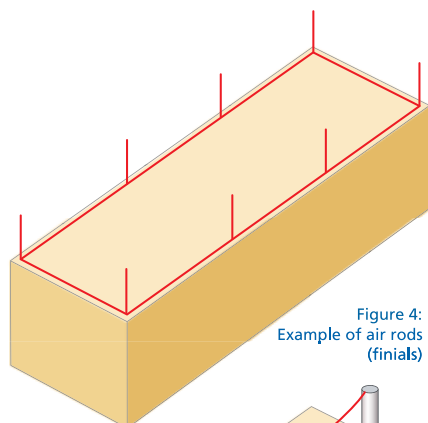

Figure 4:
- Air rods (or finials) whether they are free standing masts or linked with conductors to form a mesh on the roof (See Figure 4)